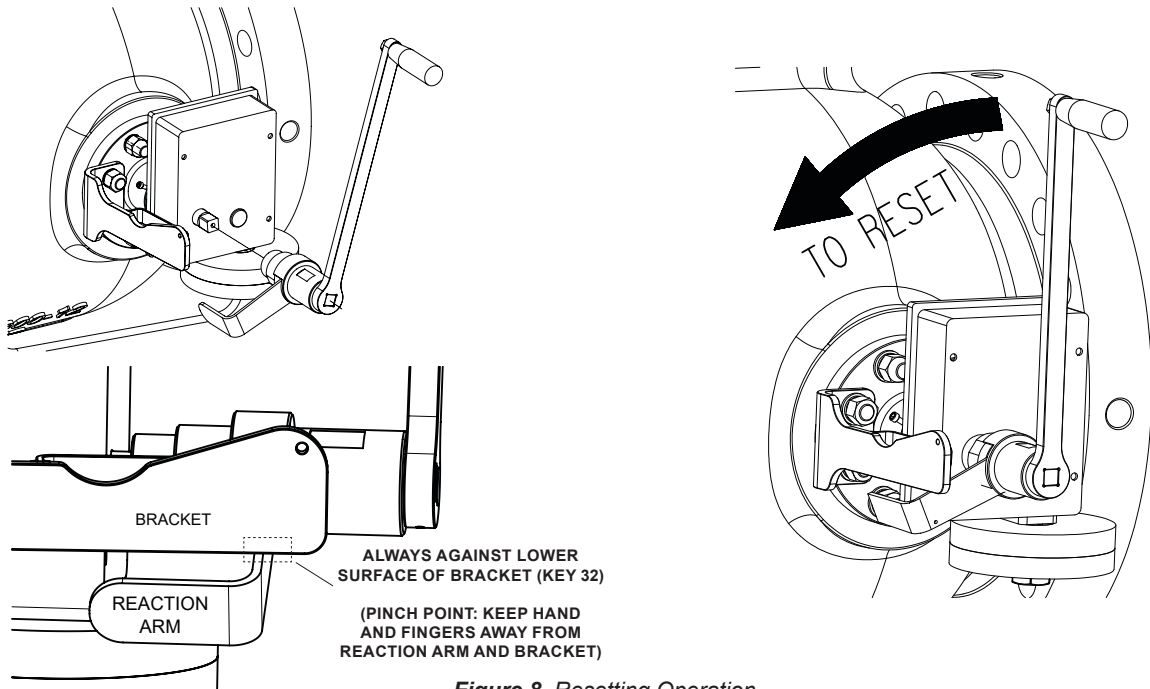

Figure 8. Resetting Operation
4. Put the handle on reset stem of controller, apply the reaction arm securely against lower surface of the bracket. See Figure 8 for resetting operation.